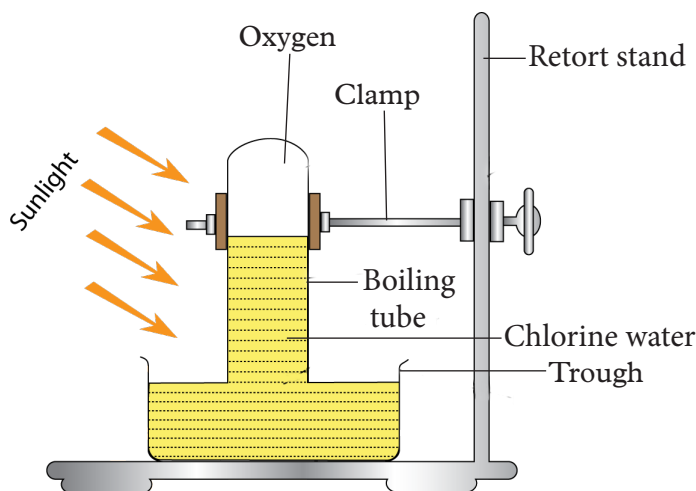

Fig 4.8 Chlorine water in sunlight
3. a) Pass chlorine gas through distilled water in a gas jar as shown fig 4.8.
- b) Fill a boiling tube with chlorine water. Invert the boiling tube in a beaker containing distilled water as shown in fig 4.8 and leave the set up in sunlight for 2 days.
When chlorine water is exposed to sunlight for some time, oxygen gas is produced displacing the solution from the boiling tube as shown Fig 4.8.